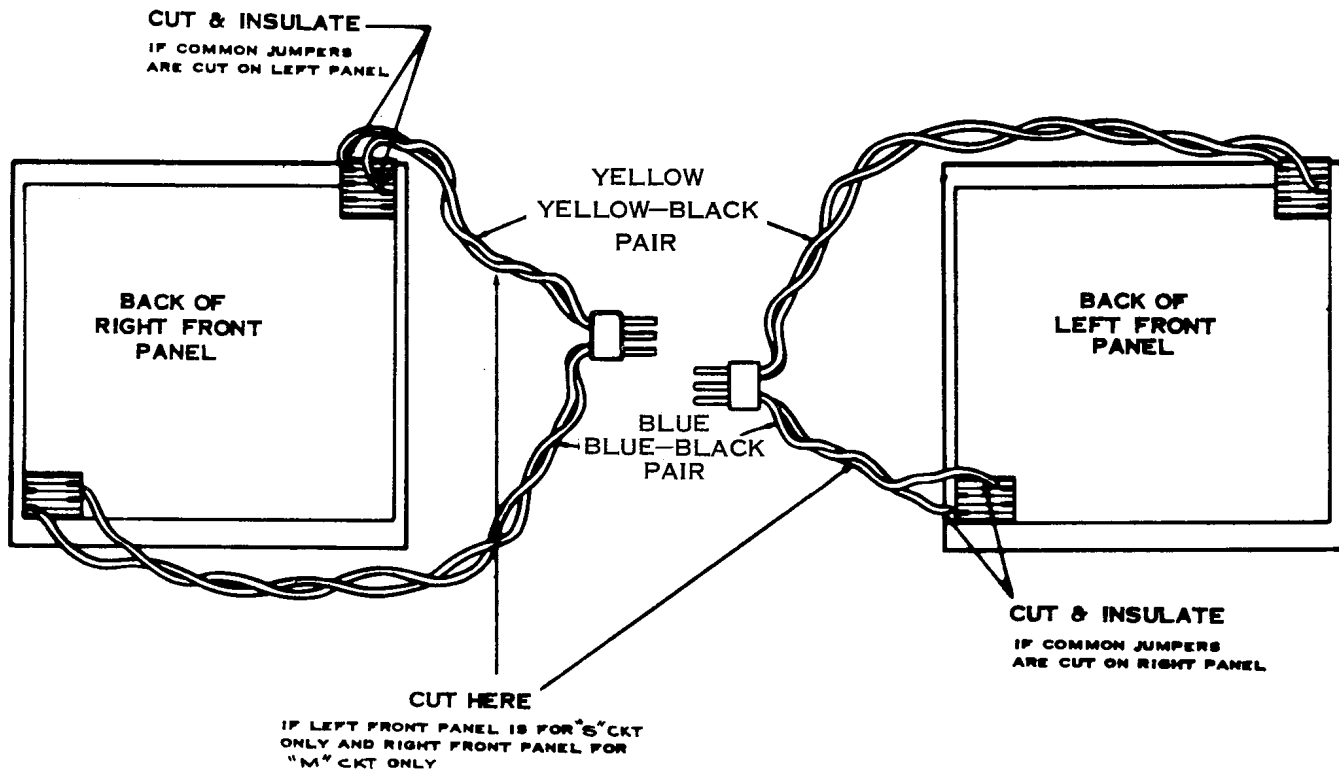

Figure 6 - Connections to be Cut on a Two-Panel Teletalk Without Annunciators
5.12 If the master station has two front panels and the common white wires to be cut are on the left front panel, also cut the yellow, yellow-black pair of wires connecting the right front panel to the plug. If the common white wires to be cut are on the right front panel, cut the blue, blue-black pair of wires connecting the left front panel to the plug (see Figure 6).
5.13 If the left front panel is for "S" circuit master stations only and the right front panel is for "M" circuit master stations only, cut the yellow, yellow-black pair from the plug to right front panel and the blue, blue-black pair from the plug to the left front panel. Cut at the keys and tape (see Figure 6).